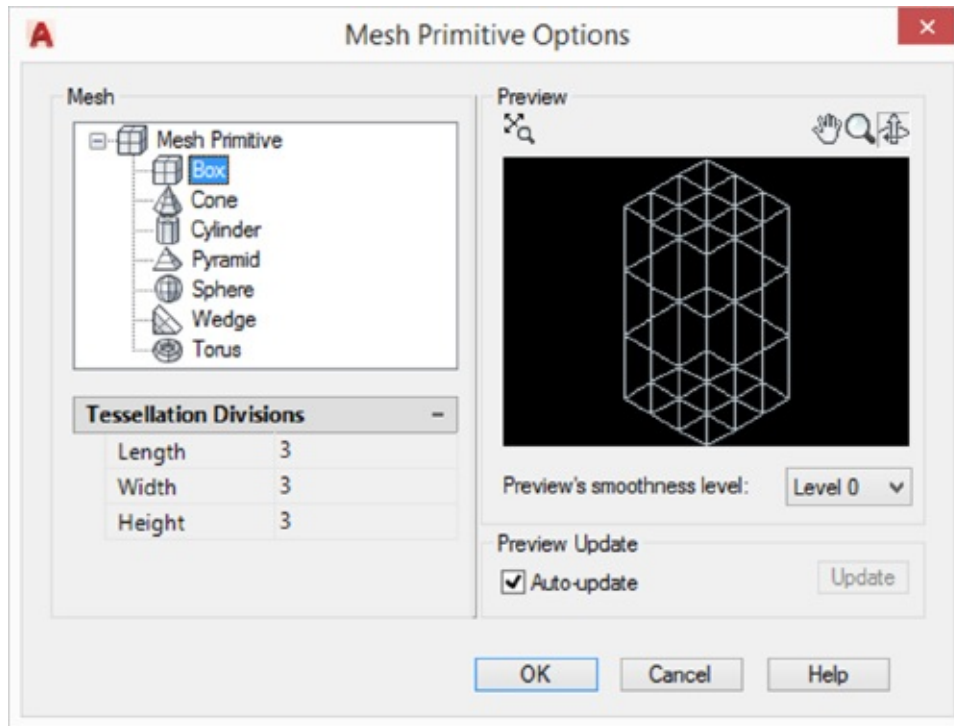

FIGURE 23.6 The Mesh Primitive Options dialog box
2. In the Mesh tab, click the Mesh Primitives Options tool in the Primitives panel title bar. The Mesh Primitive Options dialog box appears (see Figure 23.6).